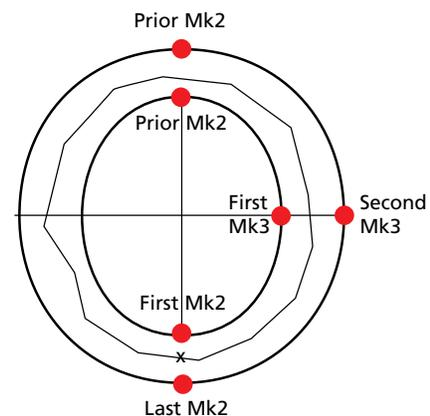

Figure 3-27
Again, when digitizing 2 or more consecutive columns on an arc, you do not redefine the beginning of the second (and other additional) columns with a Mk1, Mk2. The last Mk2, Mk2 sequence of the prior column defines the start of the current column (see Figure 3-27).
7. The start of the right side column of the letter is already defined, therefore, enter the first Mk3 for this column directly on the inside circle, half way around to the bottom of the letter (see Figure 3-27).
8. Enter the second Mk3 on the line of the outside circle and half way around to the bottom of the letter (see Figure 3-27).
9. Enter the first Mk2 for the end of this column at the bottom middle of the inside circle to define the end of the inside of the right half column (see Figure 3-27). This is the same location where you started the column digitizing with a Mk1.
10. Enter the last Mk2, to define the end of the outside of the column, at the bottom of the outside circle of the letter (see Figure 3-27). This is the same location where you entered the first Mk2, starting the column stitch digitizing.